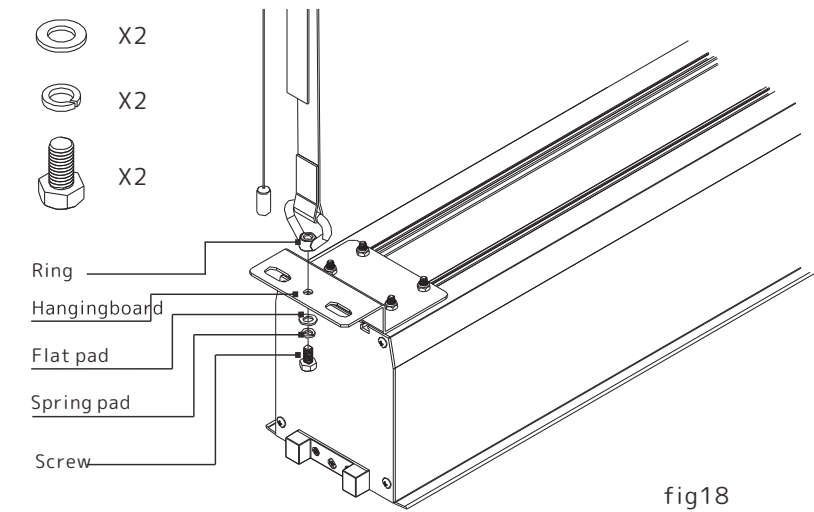

fig18
3.4 Secure the lifting eye to the lifting plate as shown in Fig18 and 19 and tighten the screws.